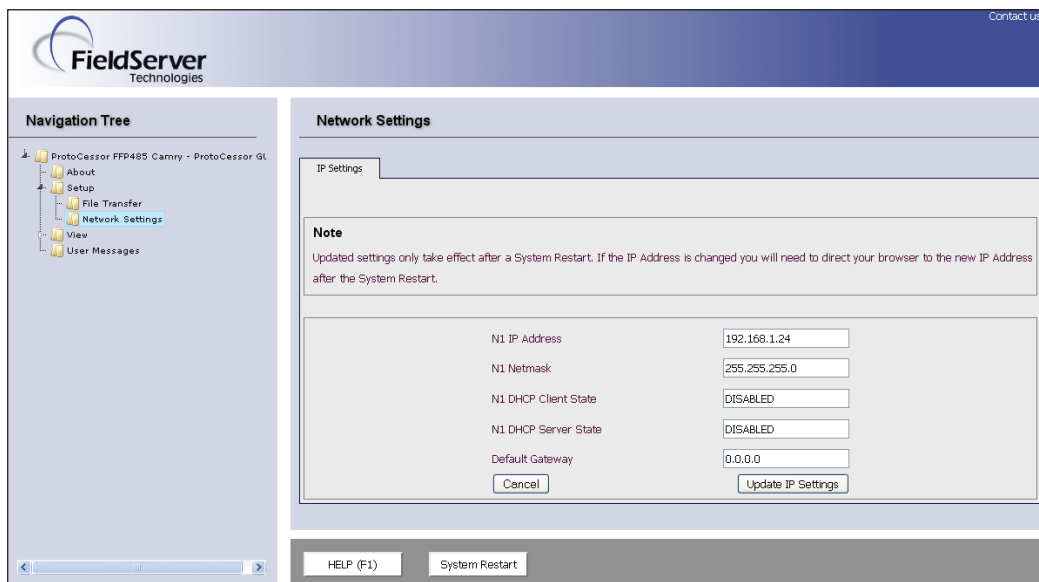

Figure 27: Changing IP address via FST Web GUI
2. From the GUI main landing, click **Diagnostics and Debugging** to get to the Utilities section of the GUI (to change IP address and other capabilities, see Figure 27).